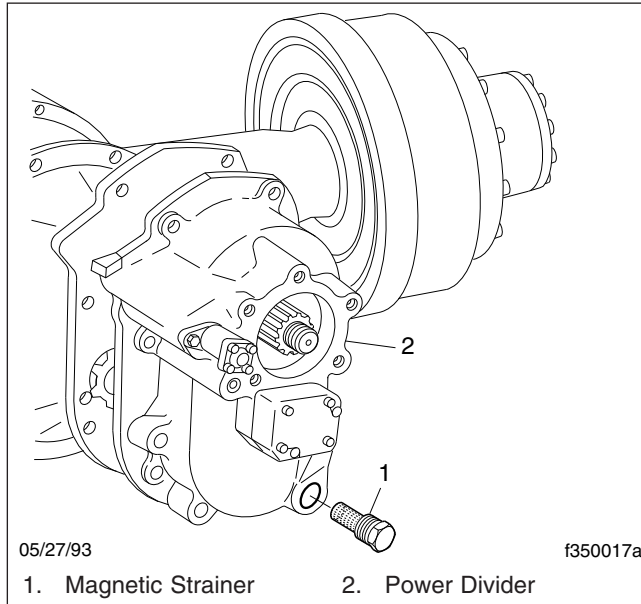

Fig. 5, Dana Spicer Tandem-Drive Axle Magnetic Strainer
4. At each axle oil change, remove and clean the magnetic strainer, if equipped, as follows; see **Fig. 5**.